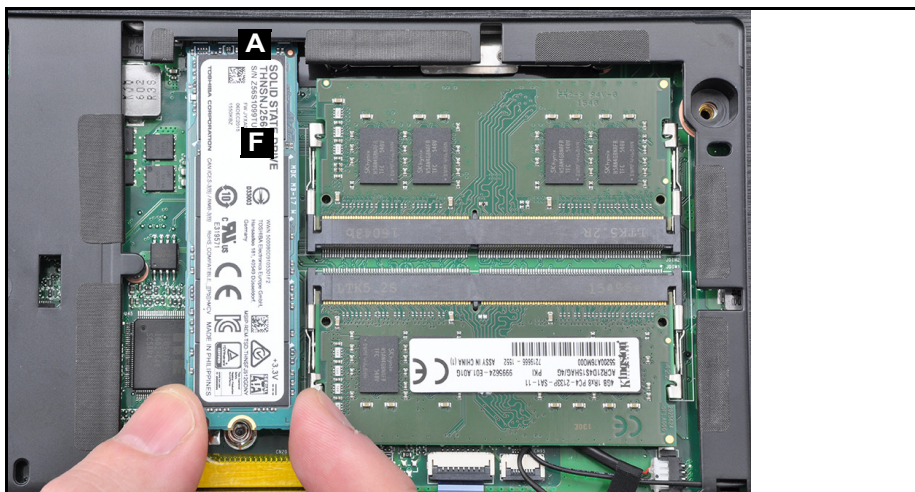

Figure 3-17. SSD Removal
3. Remove the SSD (F) from the mainboard connector (A) (Figure 3-17).